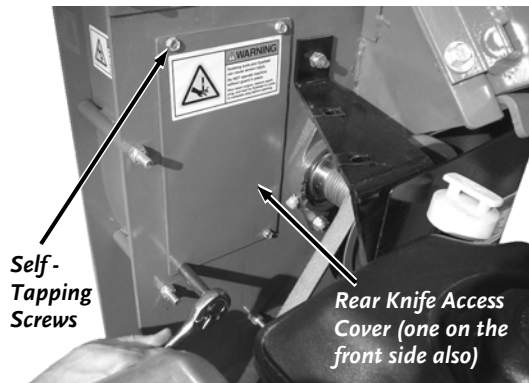

Figure 30
2. Using a 5/16" Wrench, remove the Self-Tapping Screws and remove both Knife Access Covers from the front and back of the Chipper Assembly (**Figure 30**).